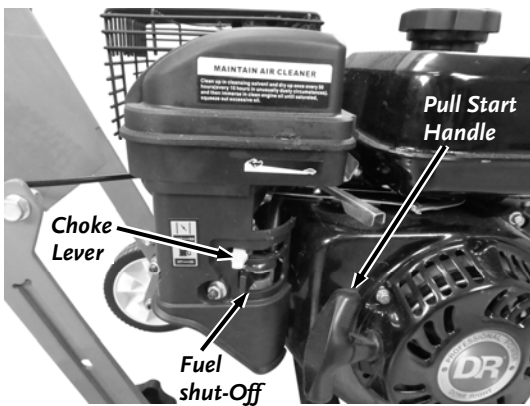

Figure 10
1. Make sure the Fuel Shut-off is in the “OPEN” position to the right (**Figure 10**).
3. Hold the Throttle Control Bail Bar against the Handlebar (**Figure 11**) and slowly pull the Starter Cord until you feel resistance (**Figure 10**), then pull quickly. The Cord will recoil back into position.
1. Make sure the Fuel Shut-off is in the “OPEN” position (**Figure 10**).